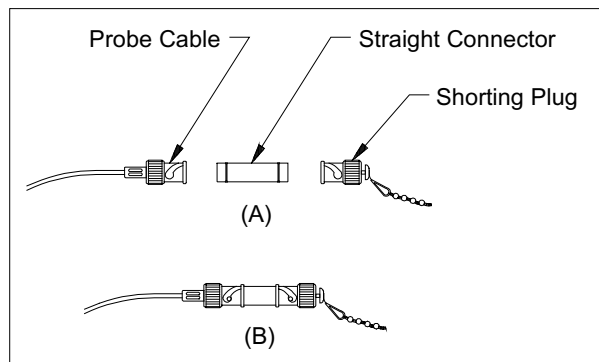
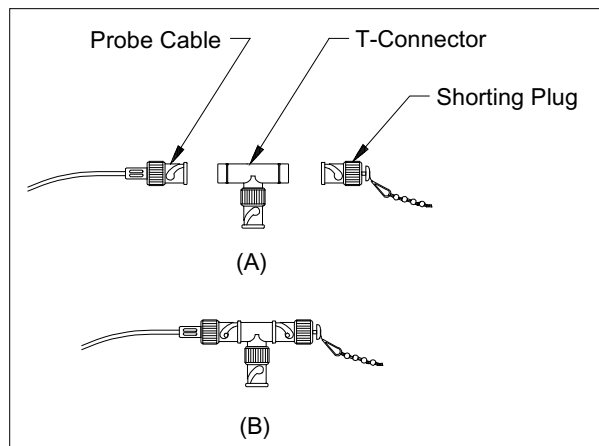

Figure D-3
Figure D-4
- ☐ If you have a one-piece probe (no probe support), you can short the cable with a BNC shorting cap, as shown in Figures D-3 and D-4. Figure D-3 shows a straight connector and Figure D-4 shows a T-connector. In both figures, View (A) shows an unassembled probe and View (B) shows an assembled probe.